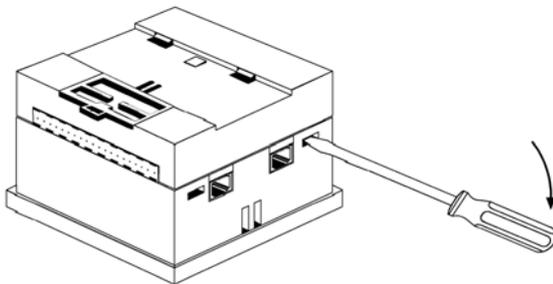

Figure 11. Opening the Controller
3. Using the blade of a flat-bladed screwdriver, gently pry off the back of the controller as shown in Figure 11.